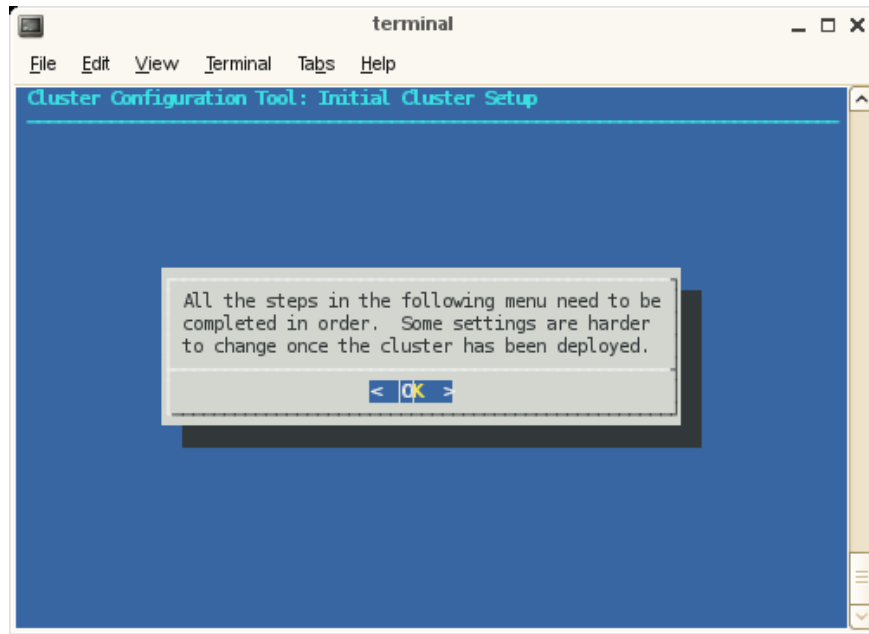

Figure 2-17 Cluster Configuration Tool: Initial Cluster Setup Screen
3. The **Cluster Configuration Tool: Initial Cluster Setup** screen appears, as shown in Figure 2-17 on page 58. Read the notice and then click **OK** to continue.